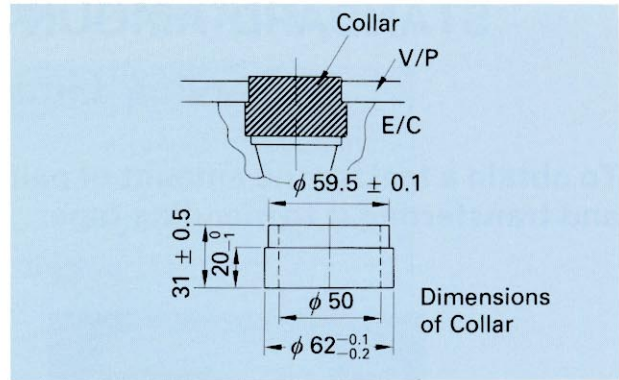

Fig. 2
- (1) Insert the collar in the end cap center hole, align the dowel pin holes of the valve plate, and fit the valve plate on top of the end cap. See Fig. 2.